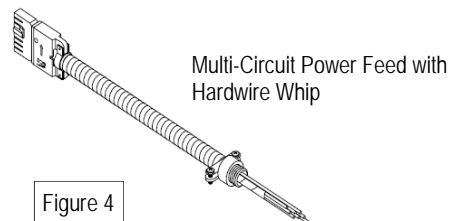

Figure 4
- A multi-circuit feed as shown in Figure 4.